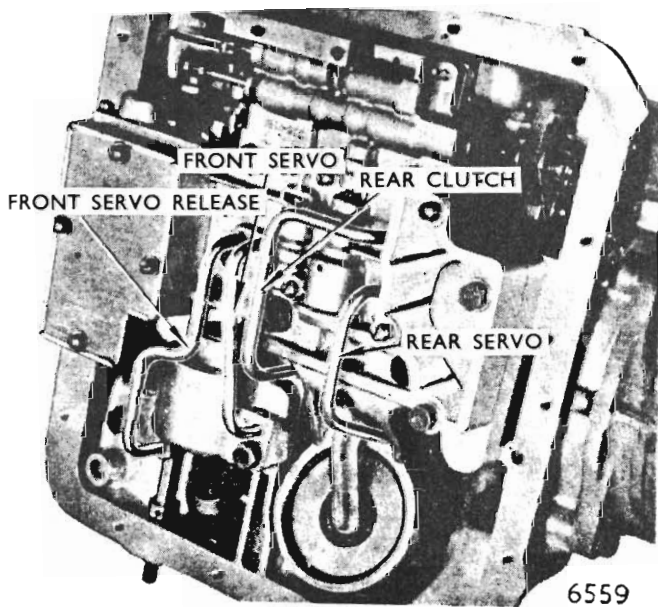

Fig. 21 – Oil tubes positioned in valve body
- (1) Remove transmission oil pan drain plug, and allow fluid to drain.
- (2) Remove transmission oil pan retaining screws and filler tube, then remove pan.
- (3) Remove the 4 exposed oil tubes carefully from their bores (Fig. 21).